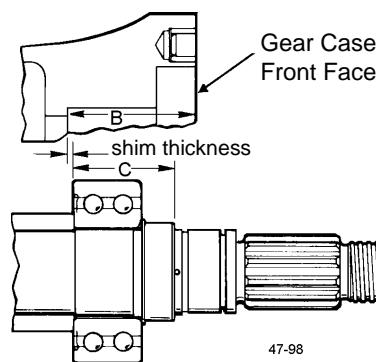
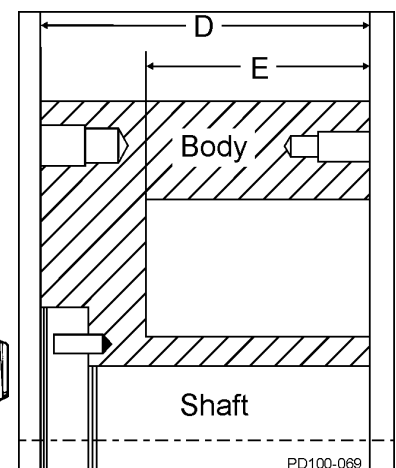

Figure 84 - Measure B and C
Figure 85 - Measure D and E
- If it is necessary to calculate the required shims for replacement shafts, bearings or both, refer to Figure 84 and Figure 85; carry measurements and calculations to three decimal places (i.e. 0.059).
- Measure "B" in the gear case and "C" on the shaft (Figure 84).
- Measure "D" and "E" on the body (Figure 85).
Table 3: Callout table for Figure 84 and Figure 85